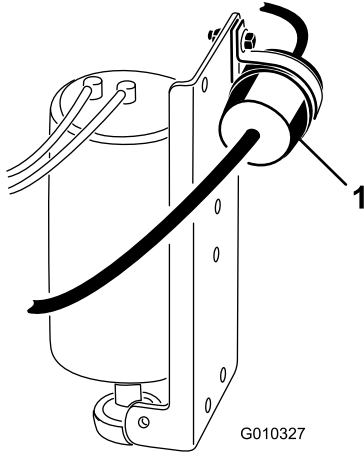

Figure 38
2. Place a drain pan under the fuel filter (Figure 38).